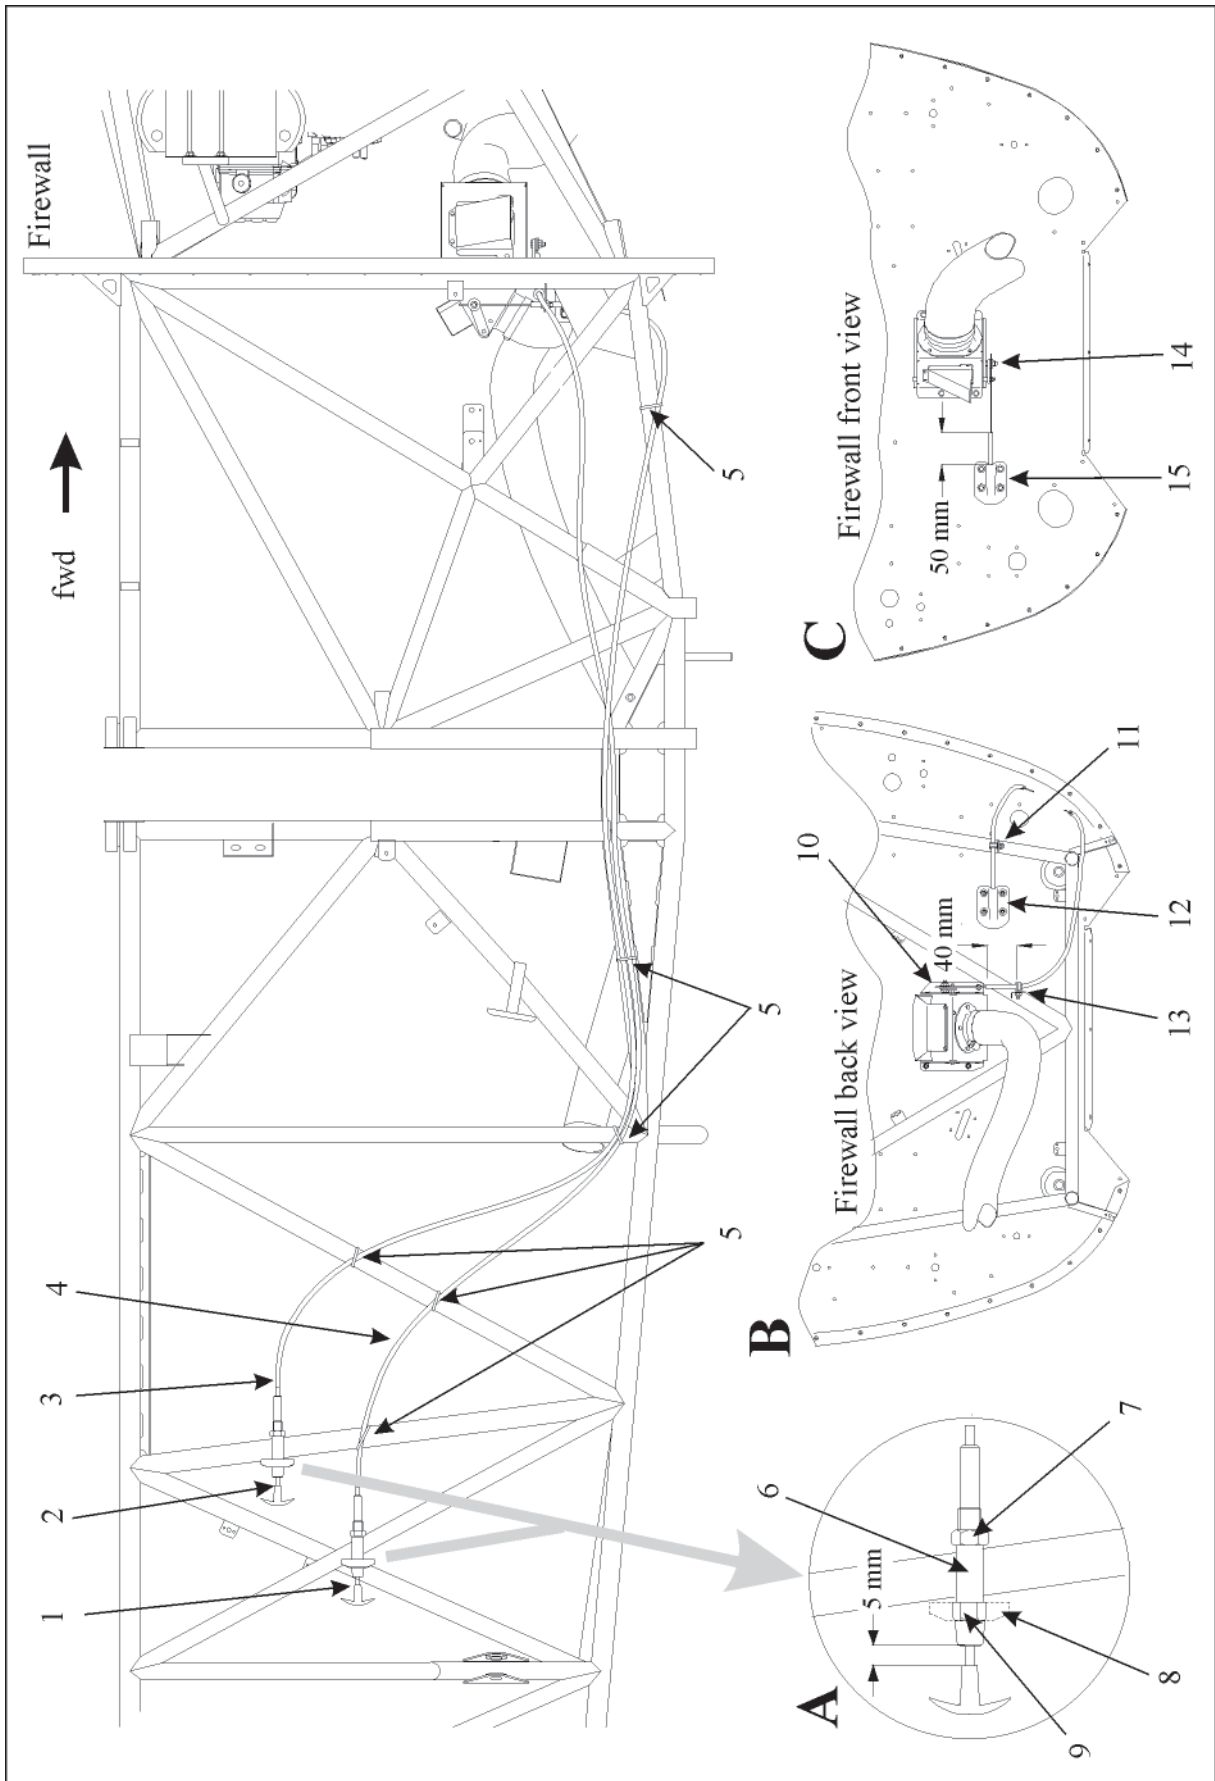

Figure 3 Heating Bowden Cables
Refer to figure 3.
Ensure distance of cable housing end to hose clamp (13) is 40 mm (refer to detail B of figure 3) when fastening the hose clamp.
- 9 Fasten the hose clamp (13).
- 11 Push distribution handle (1) to the full forward position. Then pull aft 5 mm (refer to detail A of figure 3).
- 12 Install the Bowden cable to the distribution box actuator (10).
- 1 Loosen Bowden cable attachmant bolt on the distribution box actuator (10).
- 3 Push distribution handle (1) to the full forward position. Then pull aft 5 mm (refer to detail A of figure 3).
- 4 Fasten Bowden cable attachmant bolt on the distribution box actuator (14).